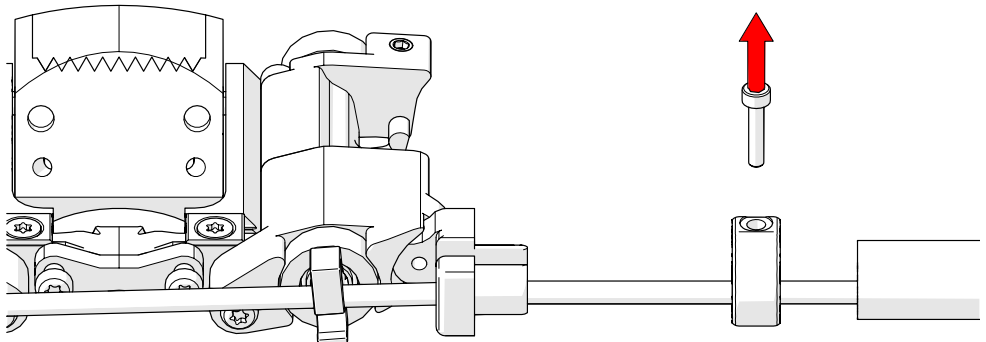

Fig. 59 - Remove sleeve, sleeve clamp and sleeve clamp screw
2. Slide the protective sleeve and the sleeve clamp from the sleeve clamp bracket (Fig. 59). Remove the sleeve and sleeve clamp from the (if applicable) encoder cable, irrigation hose and encoder cable.